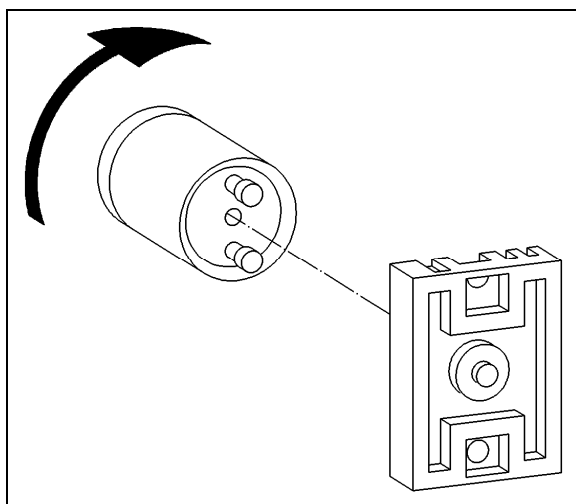

Figure 5-12: Starter Removal
3. Turn the starter counterclockwise to remove (Figure 5-12 shows the view from the outside of the appliance door).